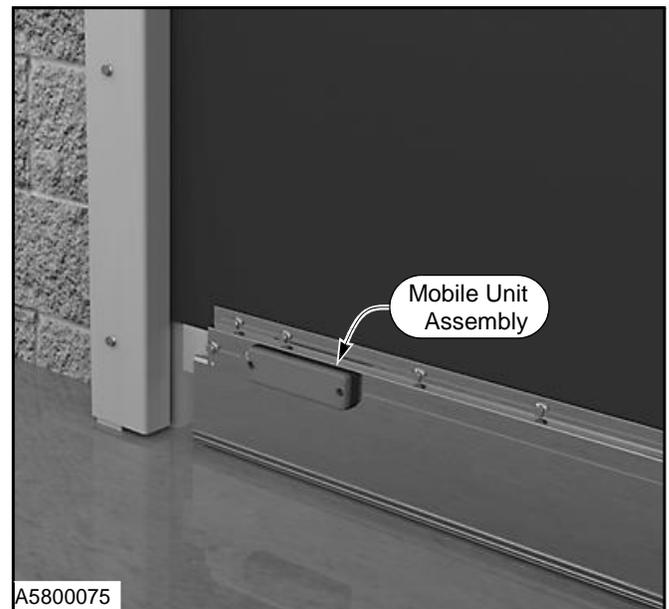

Figure 13
4. Check the mobile unit assembly. Make sure that it is tight and secure. Inspect terminal block for damage and replace any missing or damaged hardware. (See Figure 13)